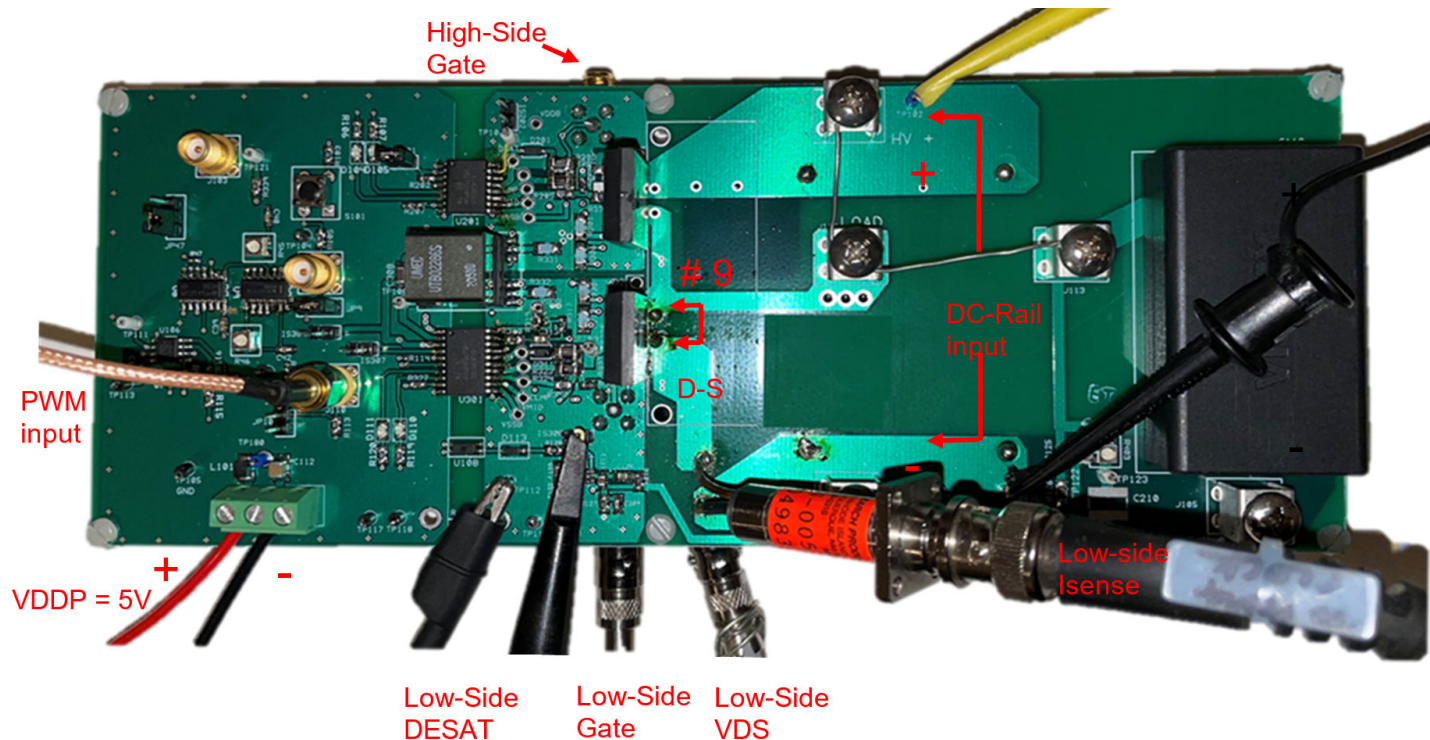

Figure 4.2. Si828x-HB- EVB Probe Connections DESAT Shorted Circuit Test
- Solder a wire across the D-S terminals of the low-side switching device as indicated by Item #9 of Figure 4.2 Si828x-HB- EVB Probe Connections DESAT Shorted Circuit Test on page 11.